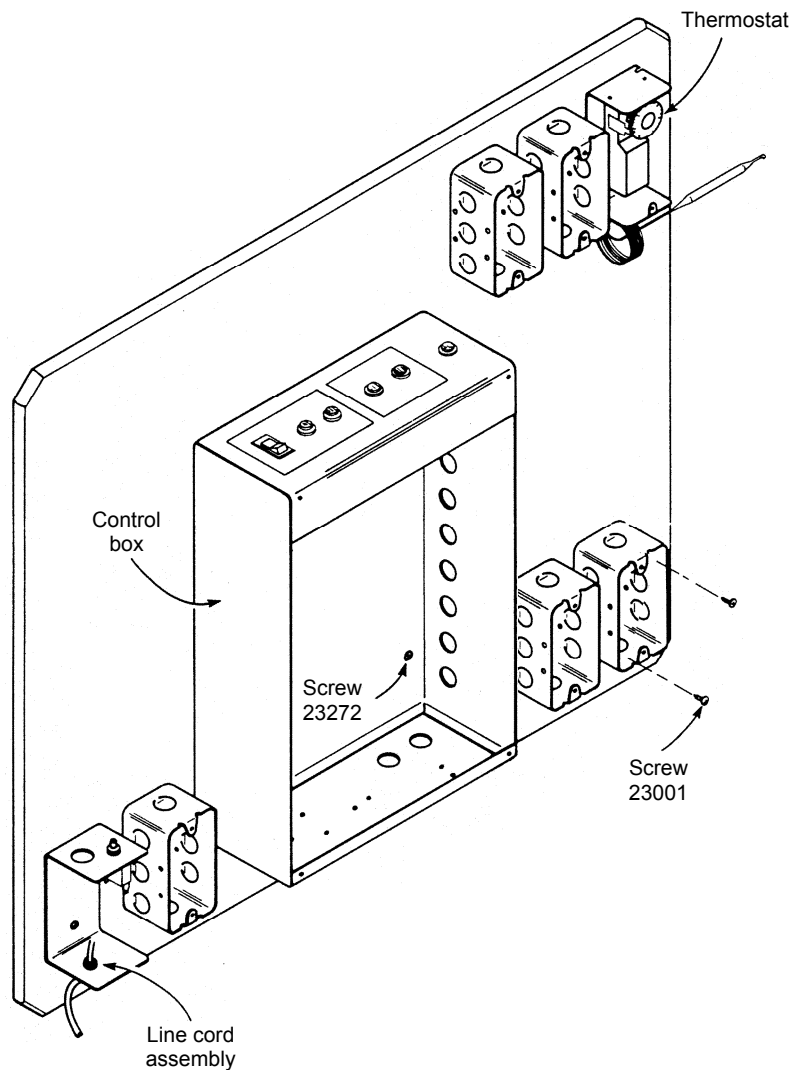

Figure 1-7. Suggested layout for electrical boxes.
1. For your protection, a special line cord assembly has been wired at the factory. Identify this component and mount it at the extreme left of your board, as shown in Figure 1-7.
2. Identify each of the electrical components shown on the layout of Figure 1-7 and position them as suggested. Make sure that each box is evenly spaced so that the next wiring operation can be made easily. Fasten each box to the wooden panel using the appropriate hardware.
Not all of the electrical boxes shown in Figure 1-7 are used in each exercise. When wiring the trainer, you can remove unused boxes if you wish.